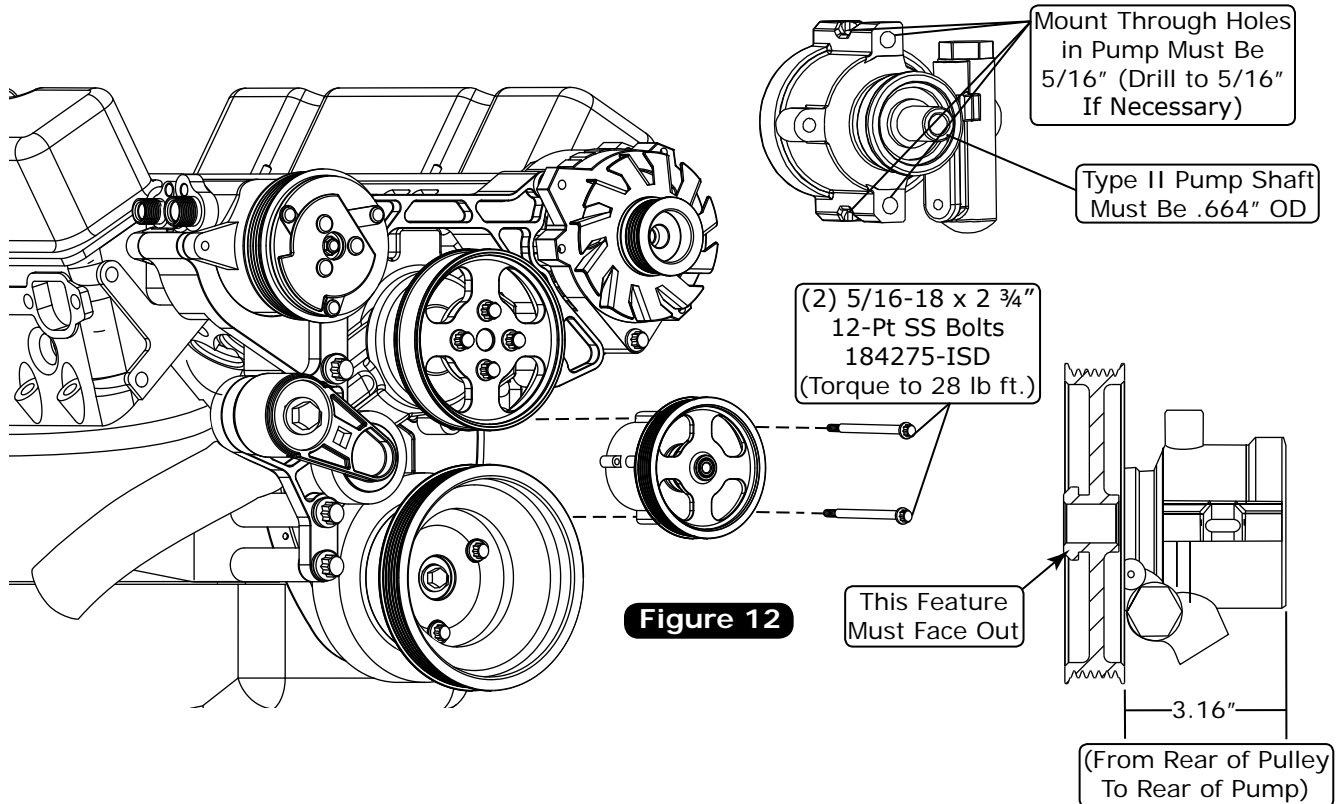

Figure 12
- Some Type-II GM power steering pumps (non-Vintage Air pumps only) have threaded mounting bases. These must be drilled out to allow the Front Runner mounting bolts to pass through the holes and thread into the bracket (See Figure 12, Page 14).
1. Using a power steering pump pulley installer, install the power steering pulley onto the power steering pump (See Figure 12, Page 14).
2. Install the power steering pump using (2) 5/16-18 x 2 3/4" 12-Pt SS bolts (See Figure 12, Page 14). Torque to 28 lb ft.